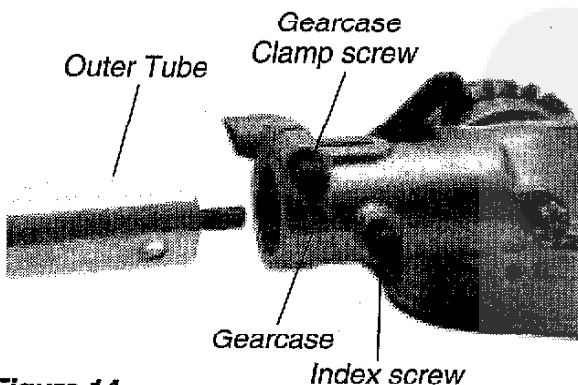

Figure 14
- **Lubricate the gearcase.** To perform this operation, first remove the gearcase from the outer tube. See Figure 14.